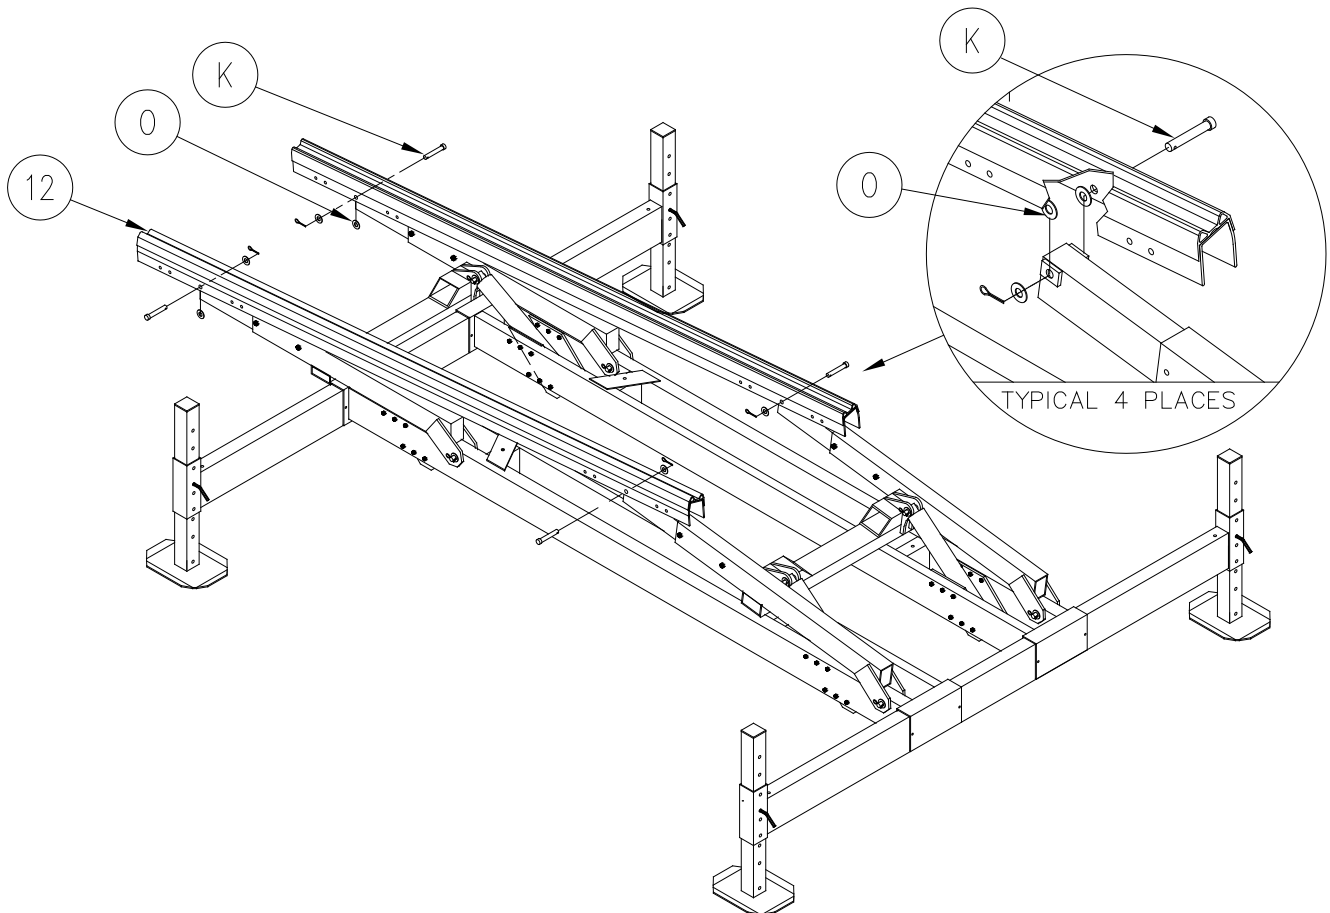

Figure 3-5.
1. Refer to Figure 3-5. Install aluminum bunk (12) to the lift arms. Place the bunk so that the sloped top surface is toward the inside of the lift.
2. Insert clevis pin (K) through one side of the aluminum bunk. Insert nylon washer (O) between bunk and the lift arm. Finish inserting clevis pin through the lift arm. Insert another nylon washer (O) between the bunk and other side of lift arm before fully inserting clevis pin. Repeat for other end of bunk.
3. Install flat washer (R) and cotter pin (P) on each end of clevis pin (K). Secure clevis pin by spreading end of cotter pin apart and bending around clevis pin. Repeat for other end of bunk.